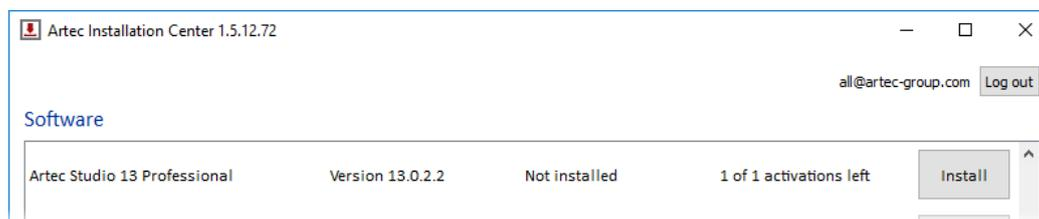

Figure 12: Artec Installation Center is ready to install Artec Studio.
- Through Artec Installation Center (either during the installation process or by clicking *Install* in the application, as Figure 12 shows)